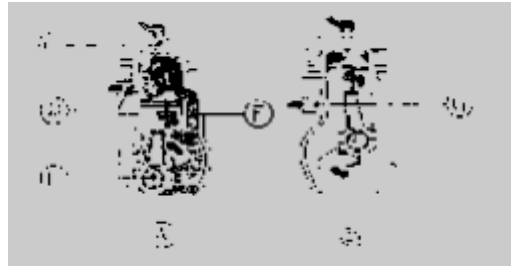

FIGURE 1
1.2 FIGURE 1, DIAGRAM SHEET 1 (attached) shows a two-stroke petrol engine.